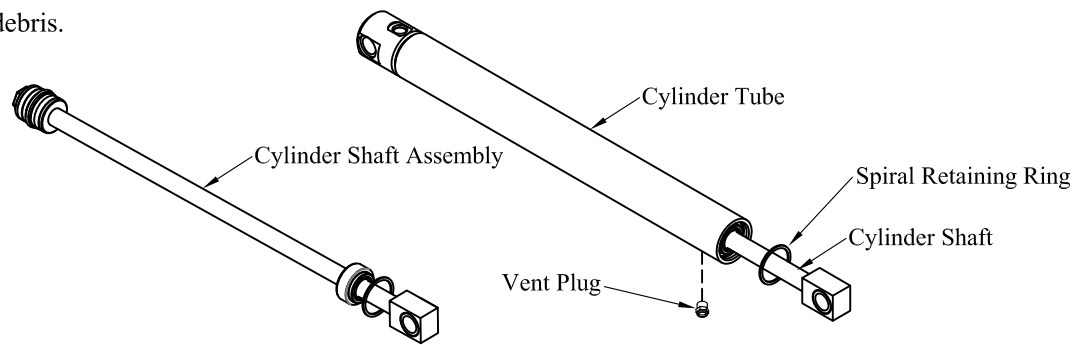

Figure 6: Cylinder disassembly.
2. **Remove** the cylinder vent plug (Figure 6).
3. **Remove** the spiral retaining ring (Figure 6).